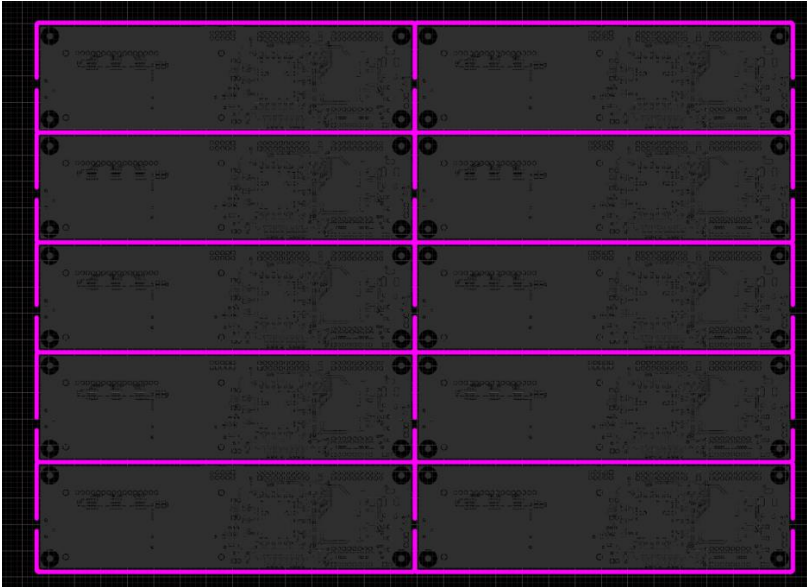

Figure 13. Horizontal cuts for breakout tabs
28. With the **Slice** command still active on your cursor, repeat this process 4 more times for the remaining rows of panelized boards. The `Route Tool Path` layer should now look similar to Figure 13 on the following page.